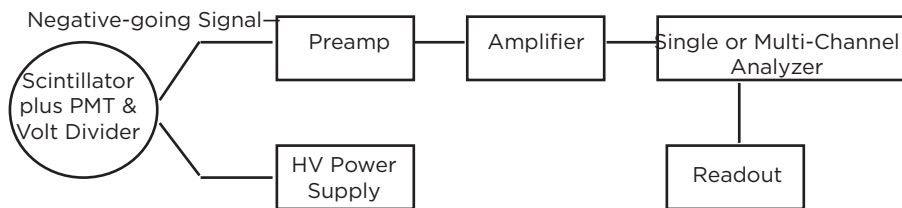
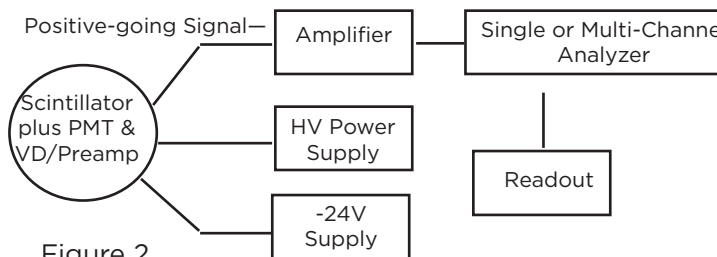

Figure 1
Figure 2
- 2) Using RG-59/U or equivalent coaxial cable, connect the positive high voltage supply (800 to 1300 volts) to the SHV (or MHV) connector as shown in *Figure 1* or *Figure 2*. The connector is marked "HV." The "SHV" can be recognized by its overall length or the "MHV" by the inner Teflon[®] insulation extending higher up than that in the signal connector. See the Quality Assurance (Q.A.) Sheet supplied with your detector for a typical HV value.
coaxial cable again as shown in *Figure 1* or *Figure 2*. (Cable length of less than 10 feet is recommended.)
Note: If you are using a voltage divider/preamplifier, no external preamp is required in your system electronics (*Figure 2*). However, you will need a separate power supply to provide negative (-)24 volts through the 9-pin connector's pin 6 and ground (common) on pin 1.
- 3) Connect the BNC signal connector to the system preamplifier's input, as shown in *Figure 1* on page 3, or directly to the system amplifier's input for the probe packaged with an FET preamp (*Figure 2*).
- 3) Connect the preamplifier from the system electronics to the signal connectors (S) using RG-58/U or RG-59/U coaxial cable (and T-connectors or fan-out box, if required) again as shown in *Figure 3*. *Figure 2* shows a block diagram of a complete system.